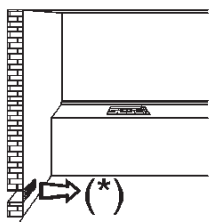
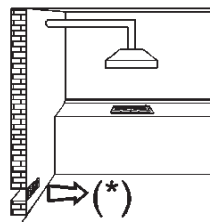
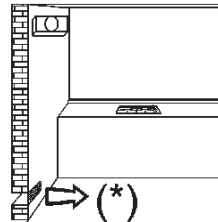

Fig. 3
Fig. 4
Fig. 5
- It is important that the room in which the appliance is installed is ventilated at all times to ensure that the appliance functions correctly. To provide the required amount of air for normal combustion of gas and proper ventilation, the appliance should be installed in a room of no less than 20 m3. There should be permanent openings in the walls of the room to allow for natural air ventilation. These openings must discharge smoke to the outside and have a cross-section of at least 100 cm2 (see Fig. 3).
An extraction hood must always be able to exhaust the products of combustion generated by gas cooking appliances. This hood must be connected to a flue or chimney, or lead directly outside. If it is not possible to install a hood, install an electric fan on an outside window or wall (see Fig. 4). The fan must operate at the same time as the appliance (see fig. 5), in strict compliance with applicable regulations.
Using a gas cooking appliance leads to the production of heat, moisture and combustion gases in the room where it is installed. Therefore, keep the room well ventilated by leaving natural ventilation ducts open (fig. 3) and by using mechanical ventilation (kitchen hood or electric fan, fig. 4 and fig. 5).